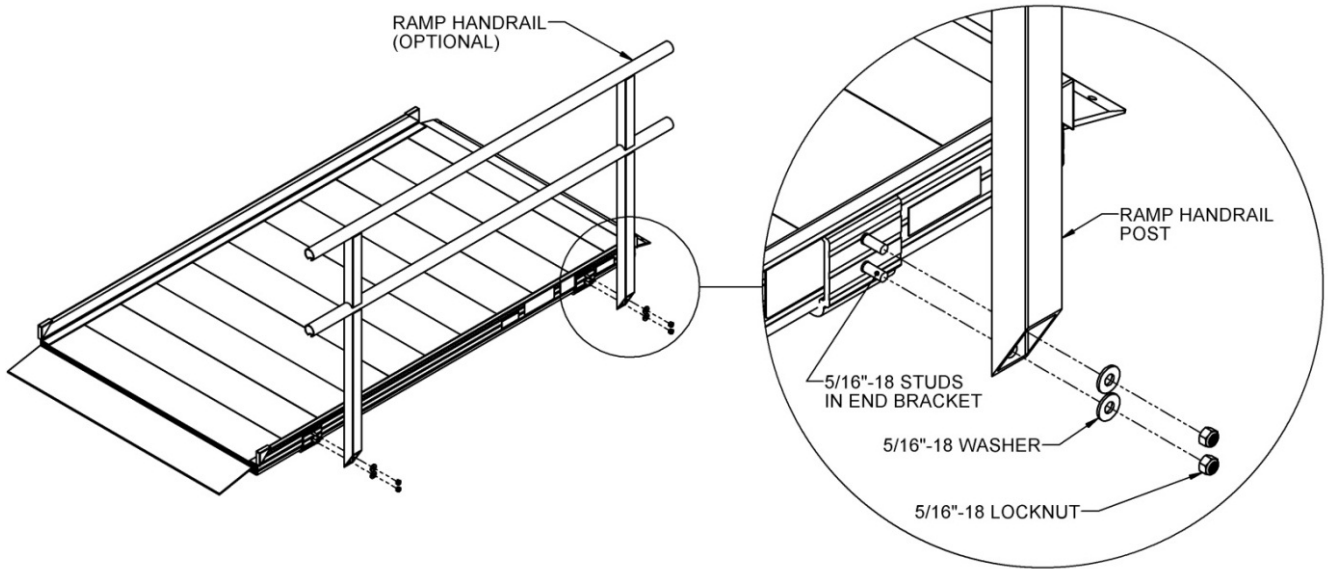

FIG 3
- 3.5. Attach handrails to these studs using two washers and locknuts per handrail post (FIG 3).